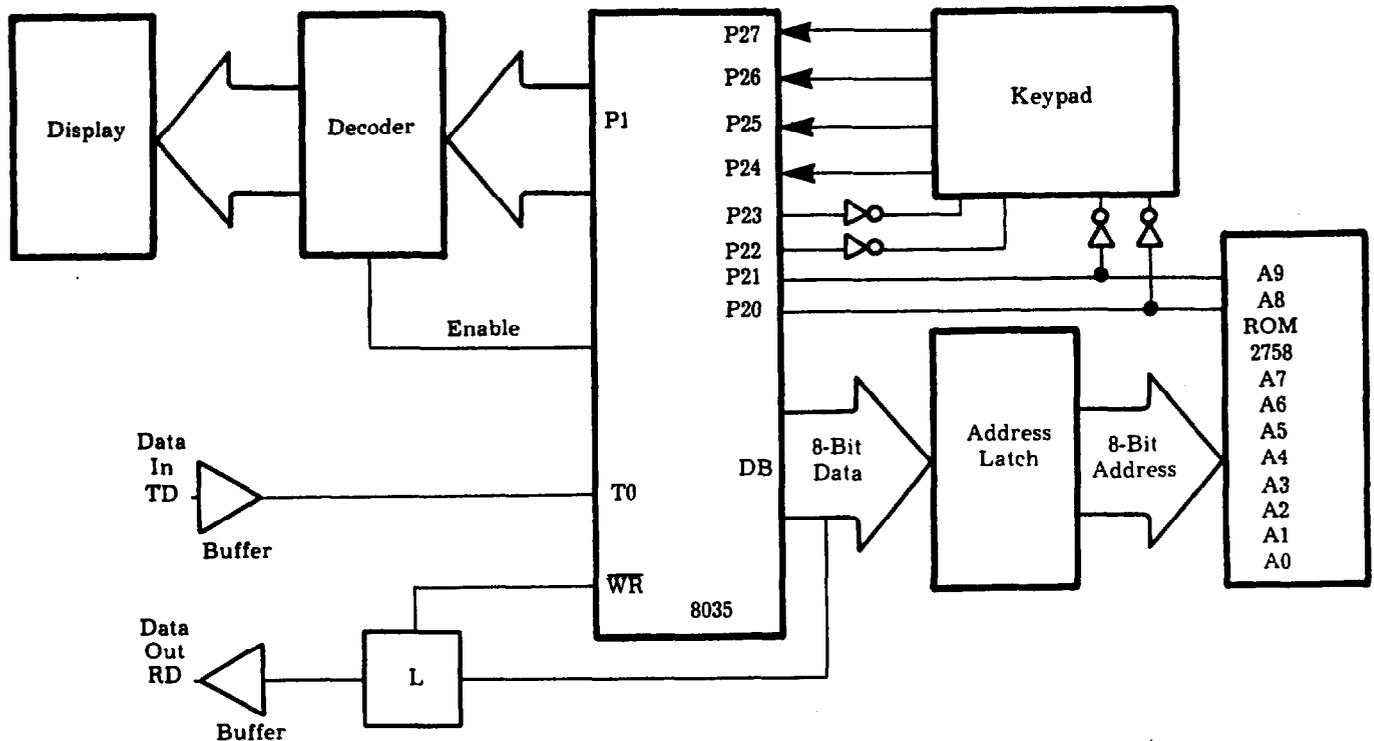

Figure IV-2—Model 966, Block Diagram
3.01 The Memory Window is used for entering commands and for reading memory registers. The unit is a microprocessor-controlled device containing an 8035 microprocessor, a program memory, a keyboard, an LED display, and buffers for entering commands, LED display, and buffers to receive and transmit serial data. Under direction of its software, this device is continuously scanning the keypad circuitry looking for commands and updating information to the display. Output commands are transmitted serially to the Traffic Recorder. Input data received from the Traffic Recorder is accepted by the microprocessor and output on the LED display. Refer to Figure IV-2.